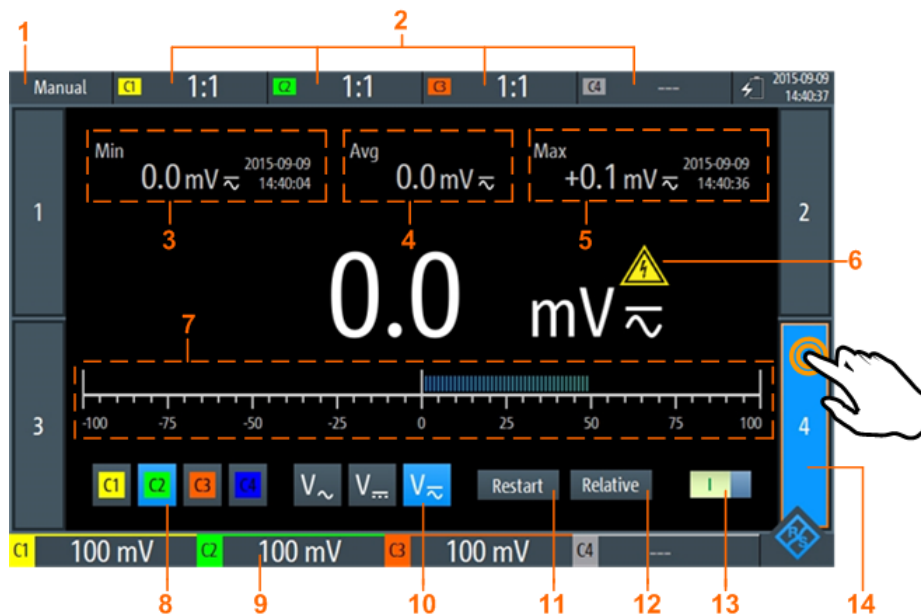

Figure 6-3: One-voltmeter-view
- Tap the highlighted number of the opened voltmeter as shown in Figure 6-3.
3. Select the channel to be measured (no. 8 in Figure 6-3).